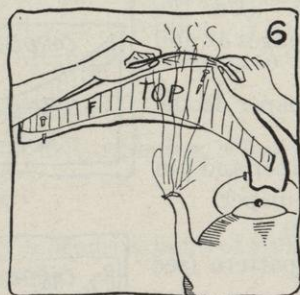

FIG. 6.
- (1) It is usually easier to stretch the larger edge of the felt or straw flange near the edge so that it will fit at the headsize (see Figure 6).